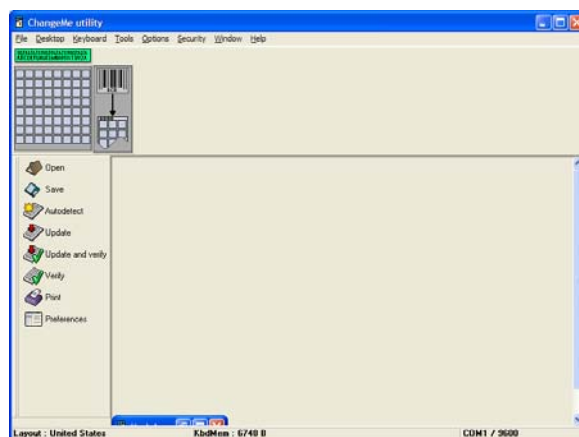

Figure 3-4
8. Click **OK**. After some time you will see a screen as in Figure 3-4.